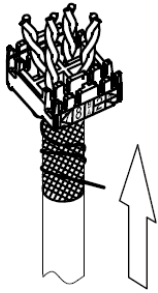

Fig. 8
- 1) Insert the wires into the cap through the holes (Fig. 8)